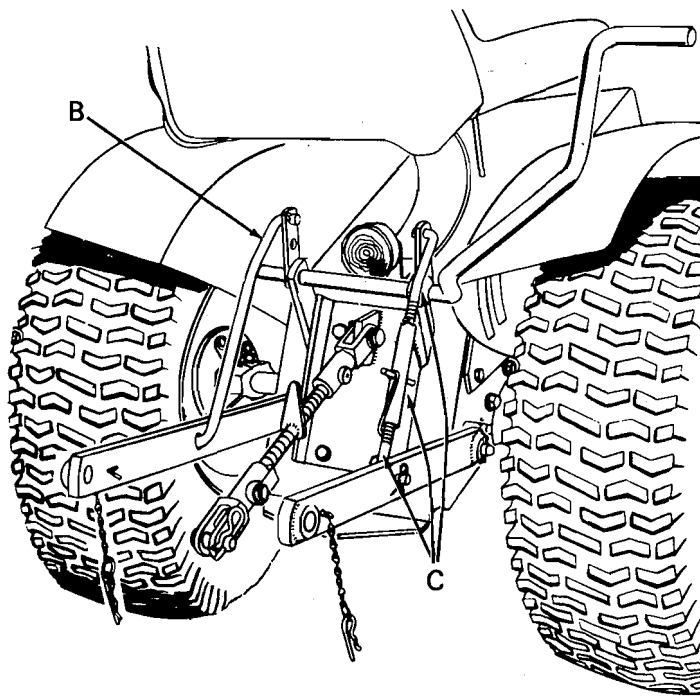

FIG. 2
1. Place Spader on level ground where tractor can be backed up to Spader for assembly. Adjust Spader gauge wheels (A) so that engine is level. Refer to "Tilling Depth," page 5, for adjusting instructions.
2. Remove the following items from the three-point hitch. Refer to Figure 2.